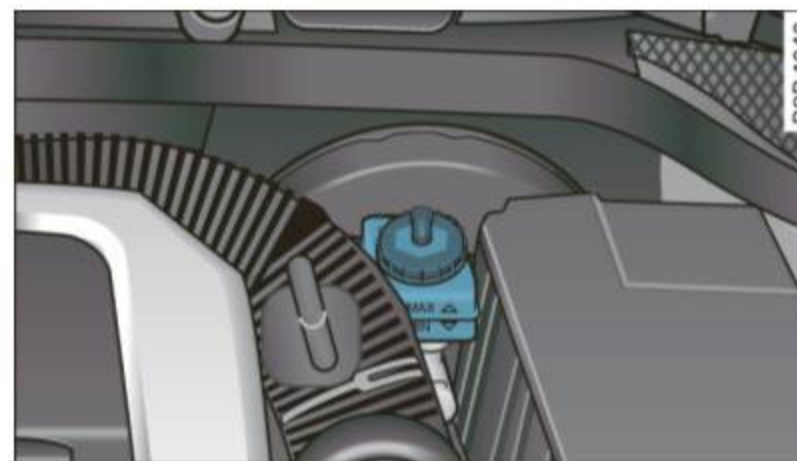

Fig. 167 Engine compartment: brake fluid reservoir
- Read the brake fluid level from the brake fluid reservoir. The brake fluid level must be between the “MIN” and “MAX” markings ⇒ *fig. 167*.